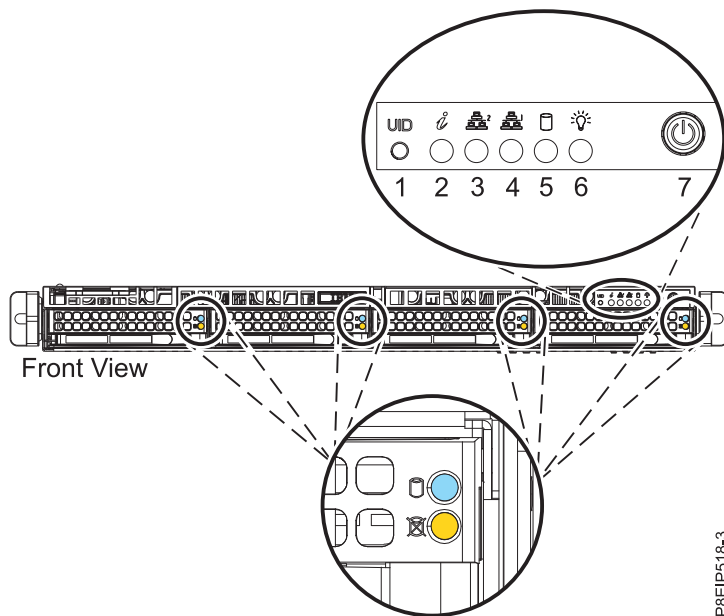
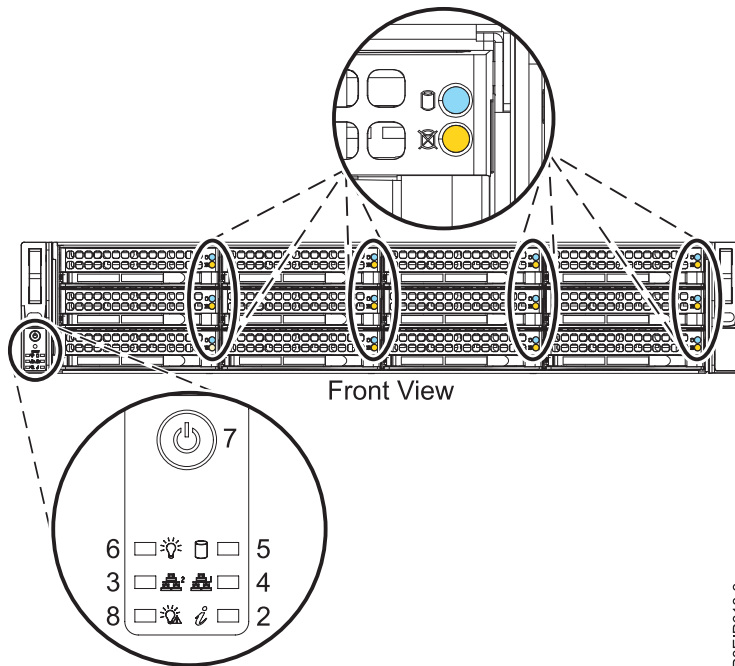

Figure 78. Power switch for 8001-12C
Figure 79. Power switch for 8001-22C
2. Press the power button (7) shown in Figure 78 or Figure 79 on page 74. You may have to press the switch for 0.5 to 3 seconds.